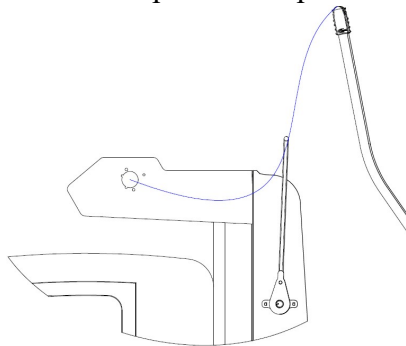

Figure 20
- 3:** Screw the tarp pole with 3/8 screw and pass the tarp in the tarp tensioner like the figure 20.